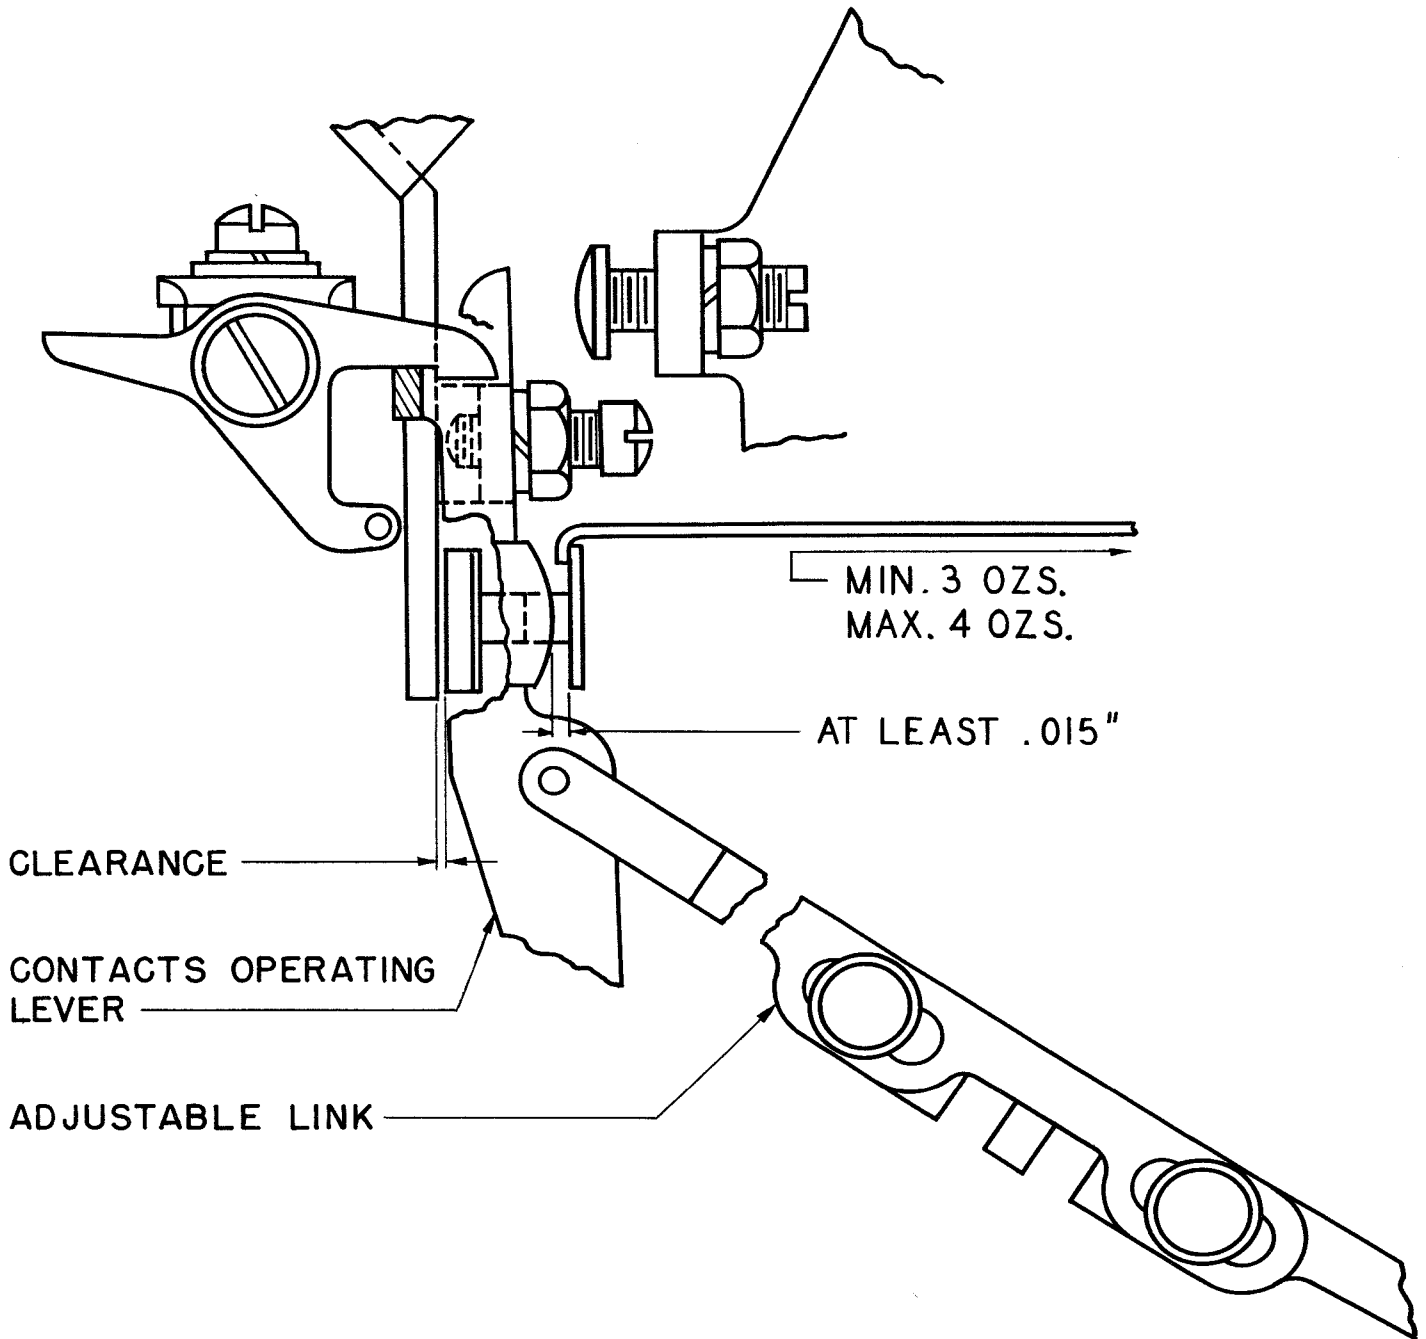

Figure 14
2.25 Contact Points: With any keylever depressed it should require a tension as specified in the figure to just separate the contact points when there is some clearance between the antichatter lever and the insulator on the (short) left contact spring, and clearance between the insulator on the punch-operating lever and the right contact spring. See Figure 14.
To Adjust: Shorten or lengthen the two-part adjustable link, by means of its elongated holes and clamping screws. See Figure 14.
To Adjust: Shorten or lengthen the two-part adjustable link by means of its elongated holes and clamping screws. See Figure 14.